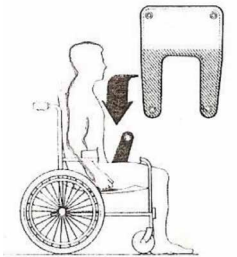

Figure 2
3. Bring the legs of the sling from the outside of the thigh underneath and up between the legs ensuring you tuck the sling leg as high as possible underneath the thigh. Repeat the procedure on the other leg (figure 2)